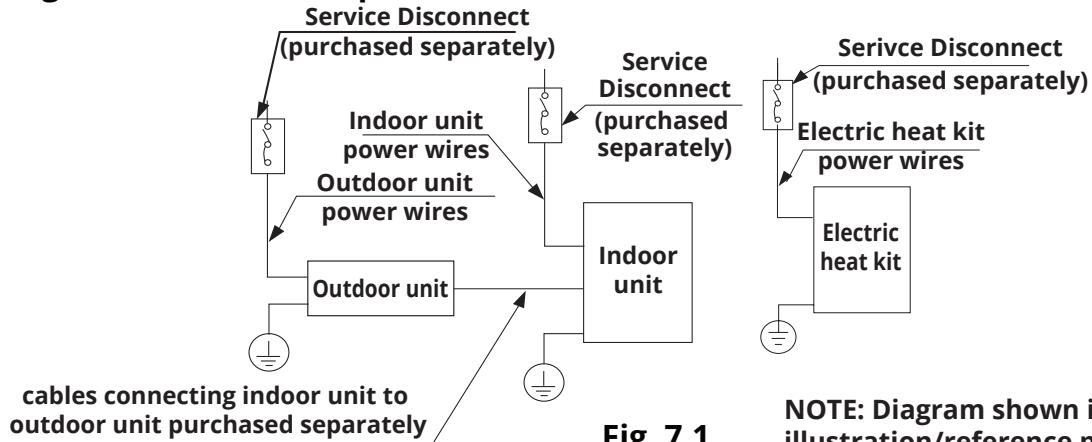

Fig. 7.1
• When the maximum current of the air conditioner is more than 16A, a service disconnect with protective device shall be used (purchased separately). Refer to Fig. 7.1.